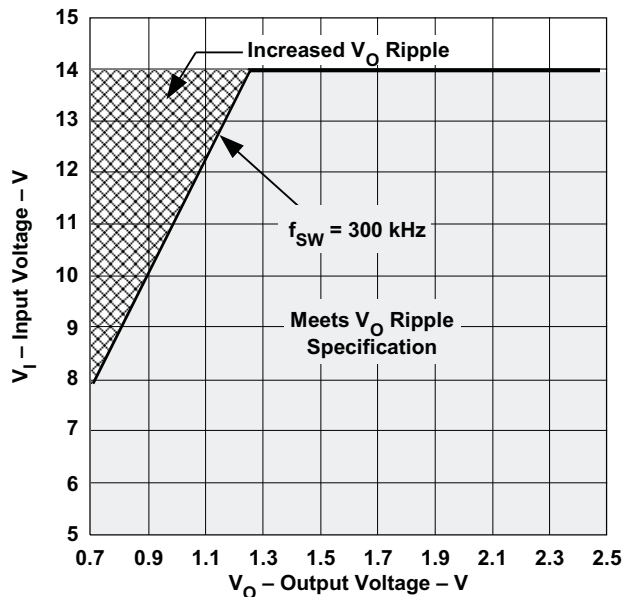
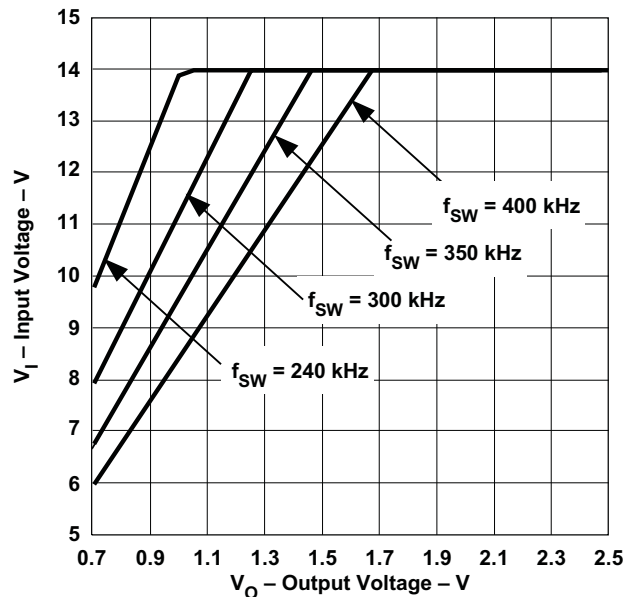

Figure 25. V_O Ripple Regions at 300 kHz
Figure 26. V_O Ripple Regions
Synchronizing to a higher frequency and operating with a low duty cycle may impact output voltage ripple. When operating at 300 kHz, Figure 25 shows the operating region where the output voltage ripple meets the electrical specifications and the operating region where the output voltage ripple may increase. Figure 26 shows the operating regions for several switching frequencies. For example, a module operating at 400 kHz and an output voltage of 1.2 V, the maximum input voltage that meets the output voltage ripple specification is 10 V. Exceeding 10 V may cause an increase in output voltage ripple. As shown in Figure 26, operating below 6 V allows operation down to the minimum output voltage over the entire synchronization frequency range without affecting the output voltage ripple. See the ELECTRICAL CHARACTERISTICS table for the synchronization frequency range limits.
- A. For Figure 25, operation above a given curve may cause the output voltage ripple to increase (typically $2\times$).
- B. For Figure 25, when operating at the nominal switching frequency refer to the 300 kHz plot.
- Changed made Figure 25 viewable - Changed made Figure 26 viewable	27 27